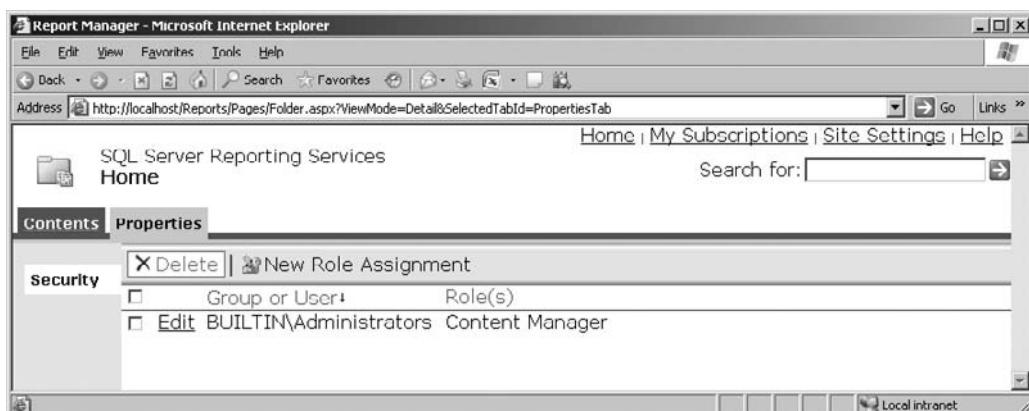

Figure 17-7 The Security page for the Home folder
2. Select the Properties tab. You see the Security page for the Home folder, as shown in Figure 17-7.